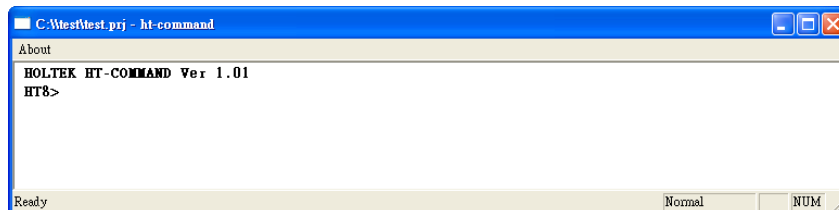

Fig 5-9
- After the command has been entered at the “HT8> xxxx” prompt, the next line will display the result of the command execution. (Fig 5-9)